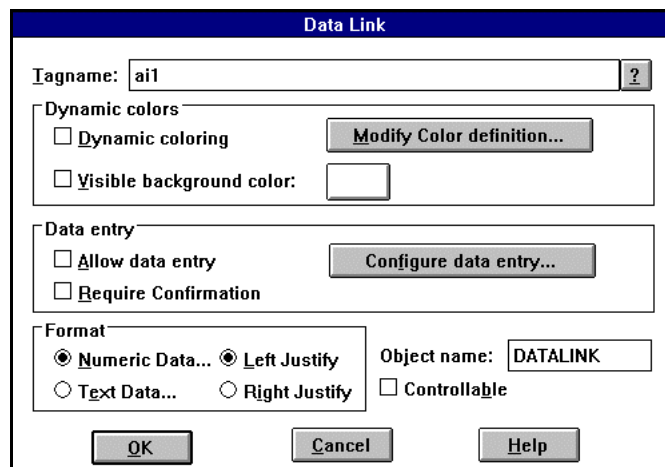

Figure 5: Data Link Dialog Box
3. Select the Data Link button,  from the toolbox (or select Link... from the tool menu then select the Data Link button) and a stamper cursor appears on the screen. Position the stamper cursor where you want the link to appear and click the left mouse button once. The Data Link dialog box appears, as shown in Figure 5 below.